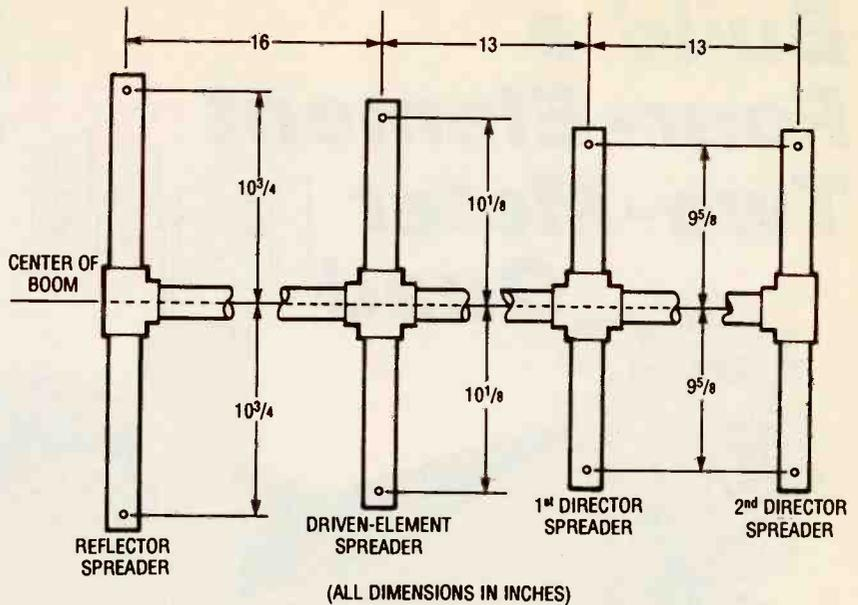

Fig. 1. This is the boom/spreader assembly for the quad antenna. Note that the locations of the holes are measured from the center of the boom.
**Building the Quad.** Construction began with two, 10-foot, 1/2-inch PVC pipes. From that stock, the boom was cut to 42 inches in length with allowances given for two PVC tees to be fitted at each end (see Fig. 1); one for the reflector and one for the first director. Those tees were not permanently installed at that time.
A thermocouple is formed when two different metals are joined together. You can make your own thermocouple for experimental purposes by screwing two pieces of copper wire on either end of an aluminum standoff, as shown in Fig 1. If a voltmeter is attached to the copper wires,
With a crude thermocouple like the one shown in Fig. 1, of course, you'll not be able to power any equipment—it does, however, demonstrate the thermoelectric effect. It also simulates the Peltier effect. If a current is passed through the copper/aluminum junctions, one of the two junctions will experience a temperature rise, while the other junction will experience a temperature decrease. But that effect will be so slight on this crude model so as to be virtually undetectable.